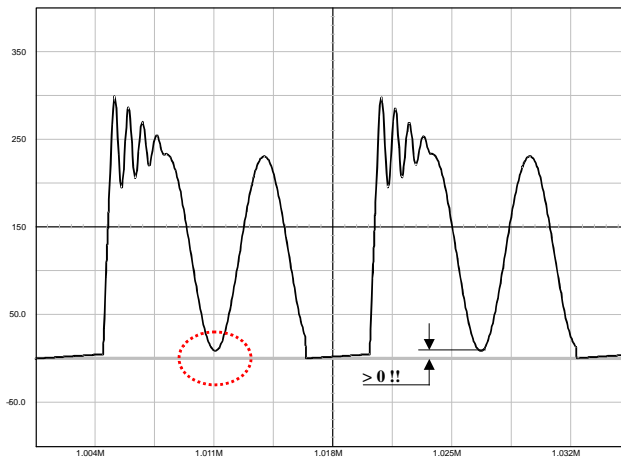

Figure 45. The Drain-Source Wave Shall Always be Positive
1. The lateral MOSFET body-diode shall never be forward biased, either during start-up (because of a large leakage inductance) or in normal operation as shown in Figure 45. This condition sets the maximum voltage that can be reflected during toff. As a result, the Flyback voltage which is reflected on the drain at the switch opening cannot be larger than the input voltage. When selecting components, you thus must adopt a turn ratio which adheres to the following equation:
Figure 47a: the simple capacitor limits the voltage according to the lateral MOSFET body–diode shall never be forward biased, either during start–up (because of a large leakage inductance) or in normal operation as shown by Figure 45. This condition sets the maximum voltage that can be reflected during t_{off} . As a result, the flyback voltage which is reflected on the drain at the switch opening cannot be larger than the input voltage. When selecting components, you must adopt a turn ratio which adheres to the following Equation 3. This option is only valid for low power applications, e.g. below 5 W, otherwise chances exist to destroy the MOSFET. After evaluating the leakage inductance, you can compute C with (Equation 4). Typical values are between 100 pF and up to 470 pF. Large capacitors increase capacitive losses...